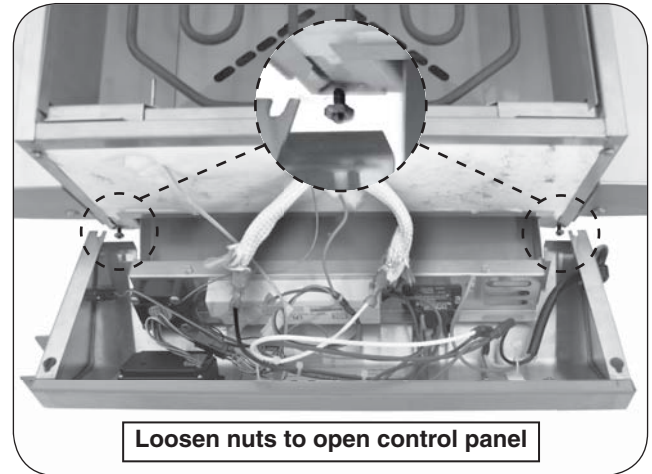

Fig. 20-1 Remove control panel
4. Loosen the nuts underneath the control panel with a $11/32$ " wrench, then lift the panel until it is freed from the screws. Carefully rest the panel on the drip tray. Reference Fig. 20-1.